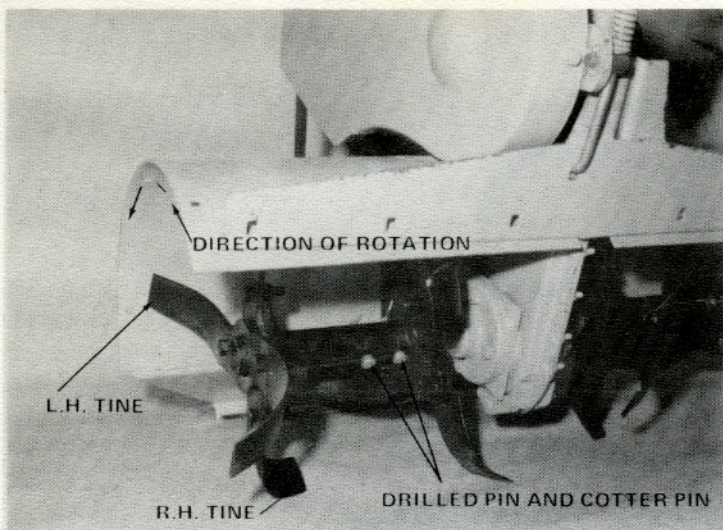

FIG. 7 – TINE REPLACEMENT
Refer to Fig. 7
- A.) Remove tine assemblies as described on Pg. 5, Fig. 7.